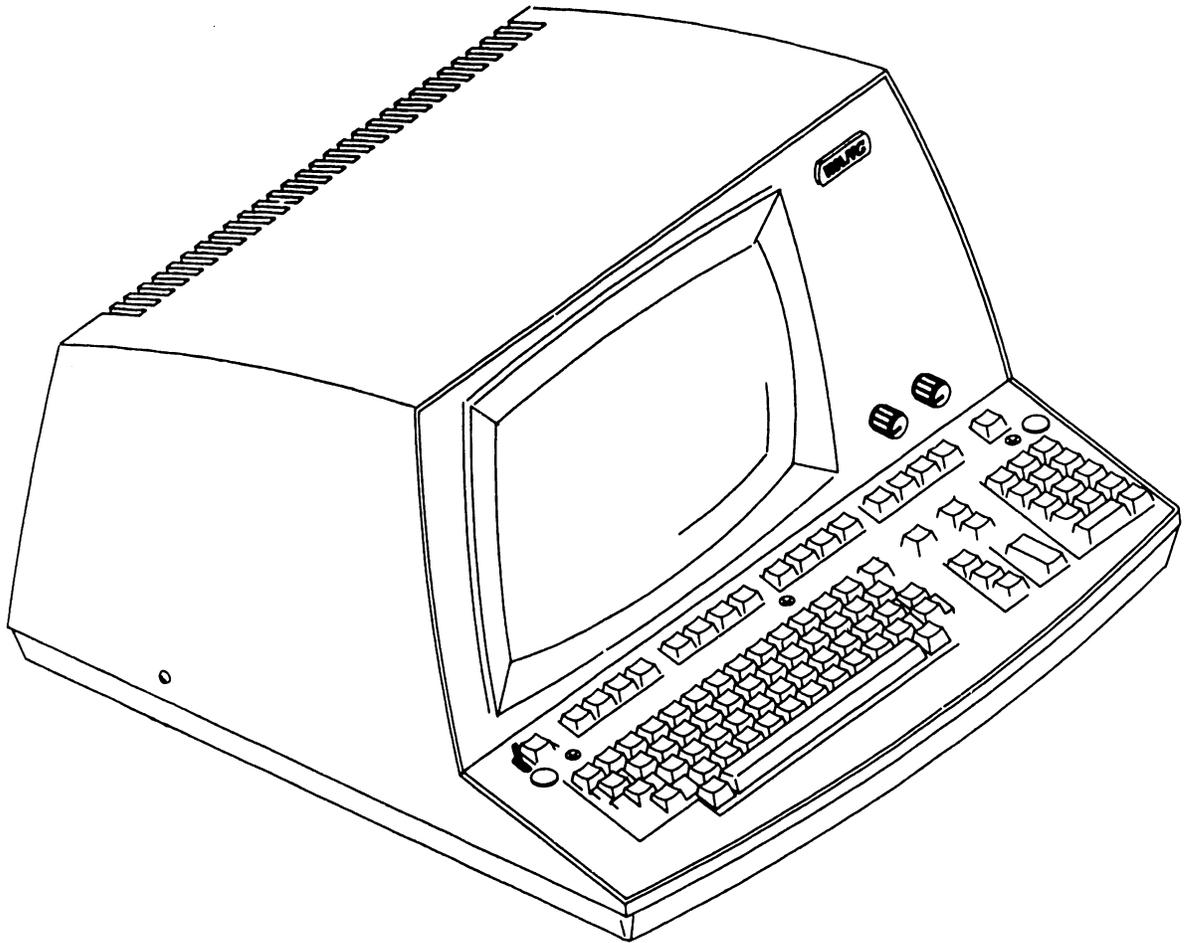

FIGURE 13 FRONTISPIECE (ASSEMBLY PART NO. 177-3236DE)
- Figure 13. Frontispiece (Assembly Part Number 177-3236DE)